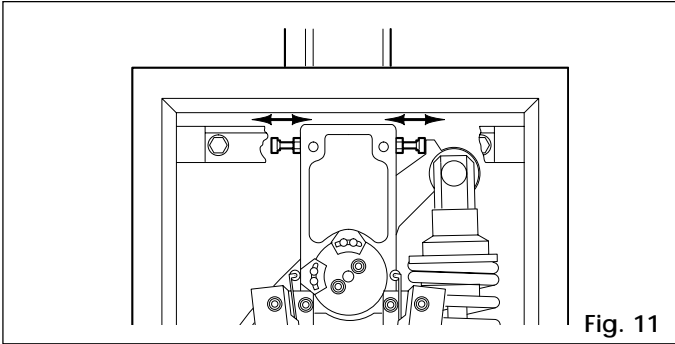

Fig. 11
- 5) Adjust the mechanical stops for opening and closing strokes, as shown in Figure 11. Check the beam balancing, as indicated in paragraph 4.4.